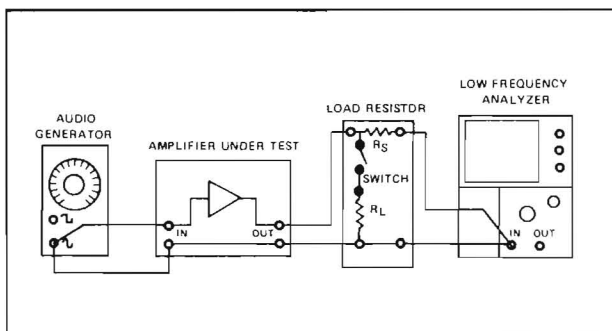

Figure 32 Damping Factor Measurements
1. Use the equipment setup that is illustrated in Figure 32. Use a specially constructed or modified load-matching combination as shown. The load portion of the pad must be switchable.